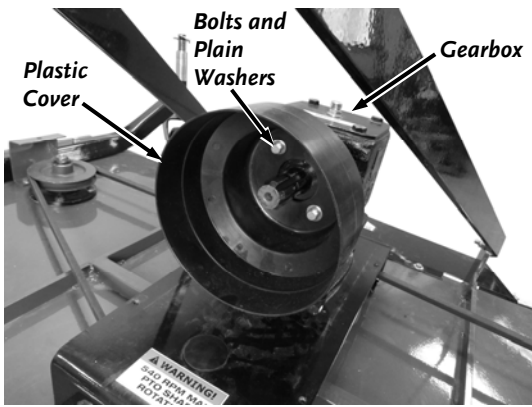

Figure 11
8. Install the Plastic Cover onto the Gearbox with four M8X16 Bolts (#40858) M8 Lock Washers and M8 Plain Washers using a Ratchet with Extension and 13mm Socket (**Figure 11**).